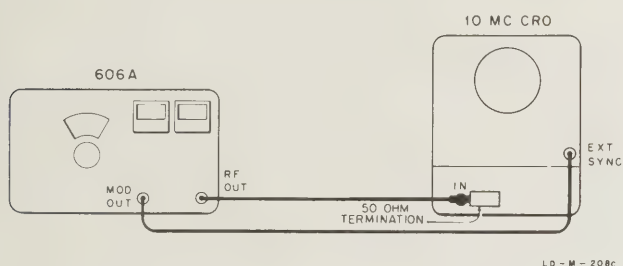

Figure 4-2. Modulation Meter Calibration
a. Connect the unit to a 10 mc oscilloscope as shown in figure 4-2.